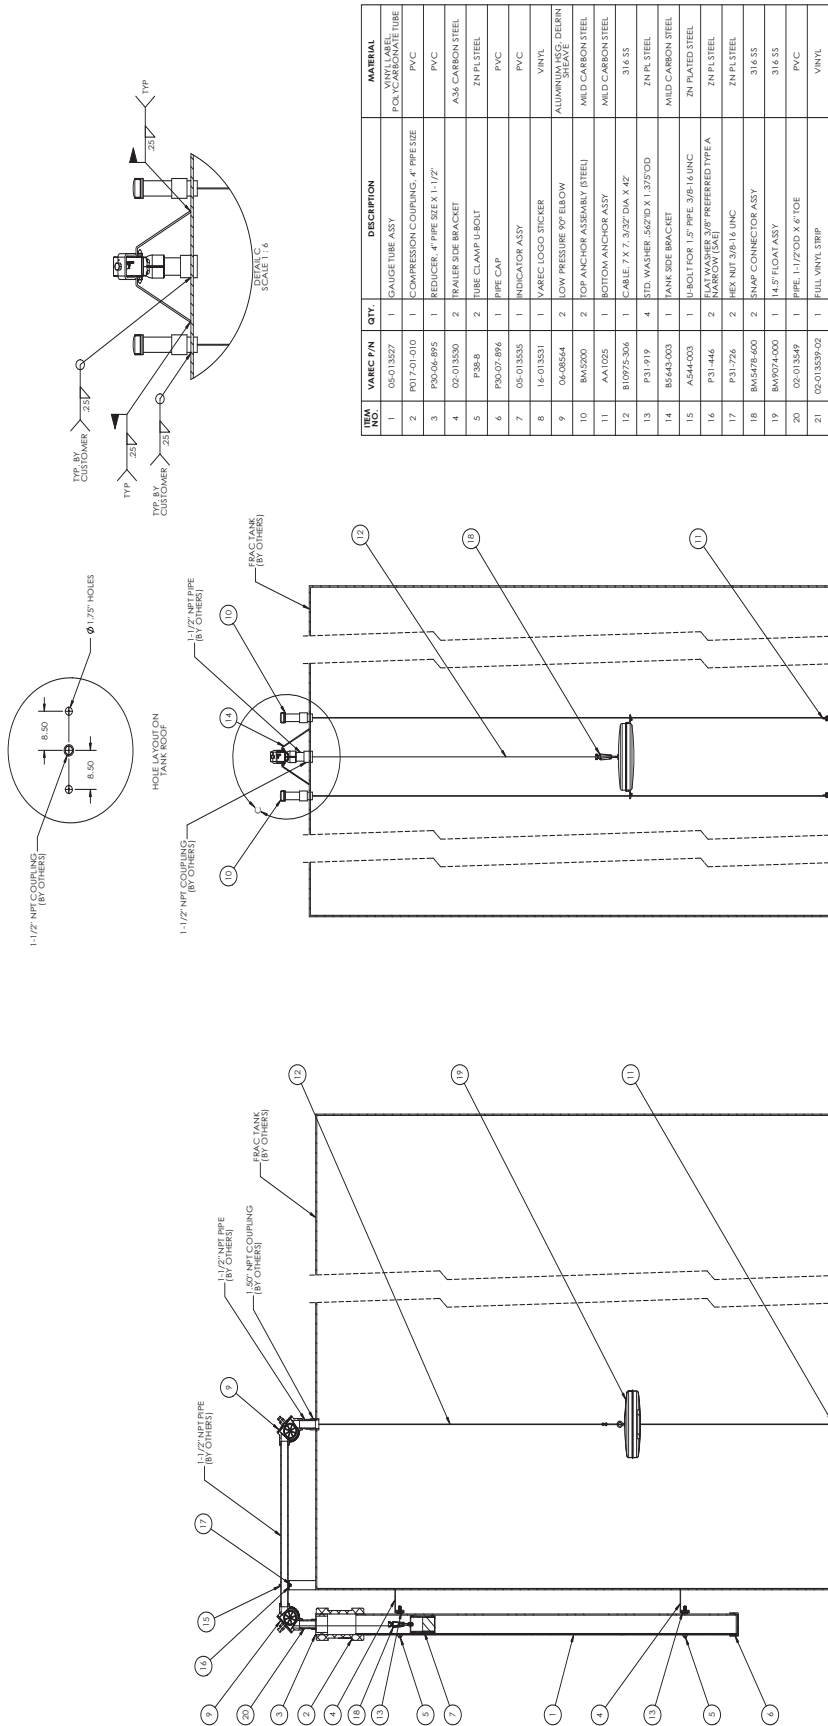

Figure 2: Tube Style Level Gauge for Mobile Tank Top Assembly w/ Component List
Refer to Table 1 on page 4. See Figure 2 on page 8 for full travel Tank Gauges.
18. Drop a chalk line from the top of the tank parallel with the plumb line and mark the chalk line on the tank wall. See Figure 2 on page 8.
- Board centered with chalked plumb line (see Figure 2 on page 8).
23. Use the “U” bolt and nuts (see Figure 2) to attach the tube connector to the pipe. The pipe should extend one inch [25.4 mm] below the “U” bolt.
25. Attach the remainder of the sections to the bottom of the tank. Make certain that each section is centered on the chalk line (see Figure 2).
Slip the indicator into the tube. Put the cable crimp on the end of the cable, then thread the cable through the hole in the indicator. Loop the cable on the outside back through the cable crimp and connect it to the crimp (see Figure 2 on page 8).
With the float just touching the bottom of the tank, water will be at the float equator (water line). Use the float connecting clamps (see Figure 2 on page 8) to make the final adjustment, then trim excess cable at the float end, leaving some additional cable for future adjustment needs.
See Figure 2 on page 33 to install Model 226 20 inch (Part Number BM3443) and 24 inch (Part Number BM3607) manhole covers with API drilling.